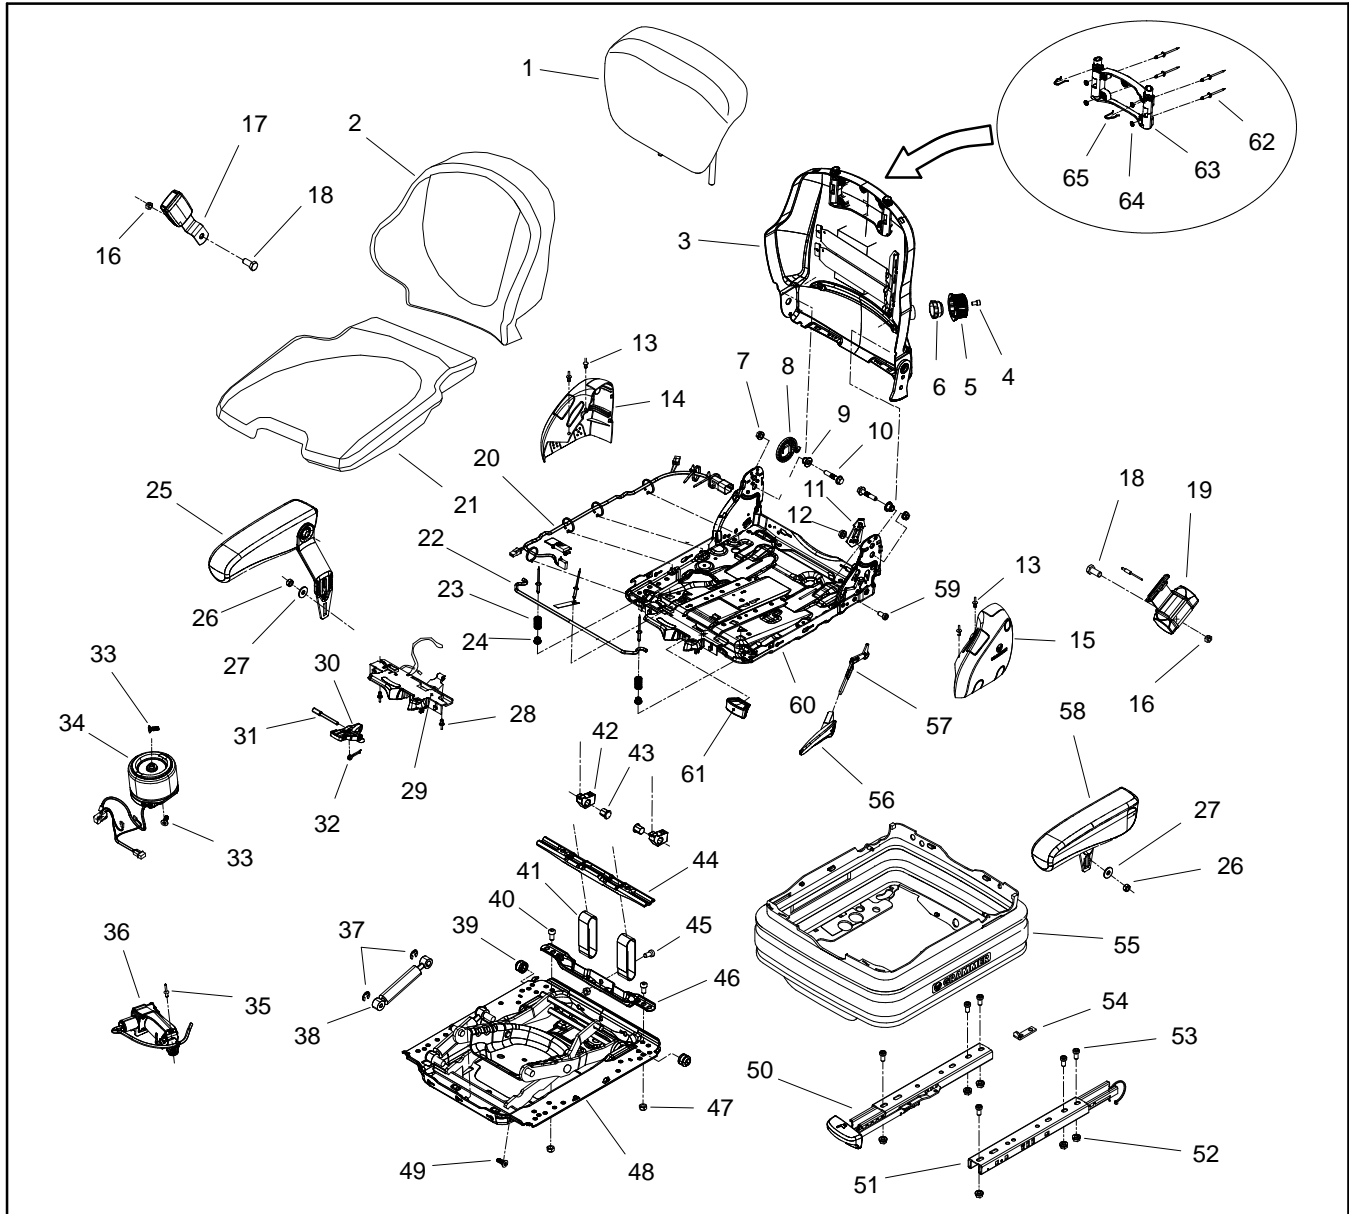

Figure 56
**Disassembly (Fig. 56)**
2. Disassemble operator seat as necessary using Figure 56 as a guide.
**Assembly (Fig. 56)**
1. Assemble operator seat using Figure 56 as a guide.